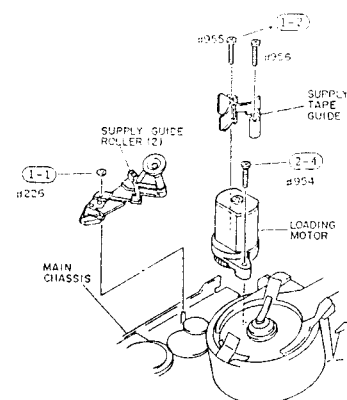

Fig. 2-65
- 1) Remove one (1) washer holding the supply guide roller (2). (See Fig. 2-65)
- 2) Remove two (2) screws holding the supply tape guide.
- 3) Remove the supply guide roller (2) and supply tape guide from the main chassis.
- 4) Remove one (1) screw and remove the loading motor from the main chassis. (See Fig. 2-65)